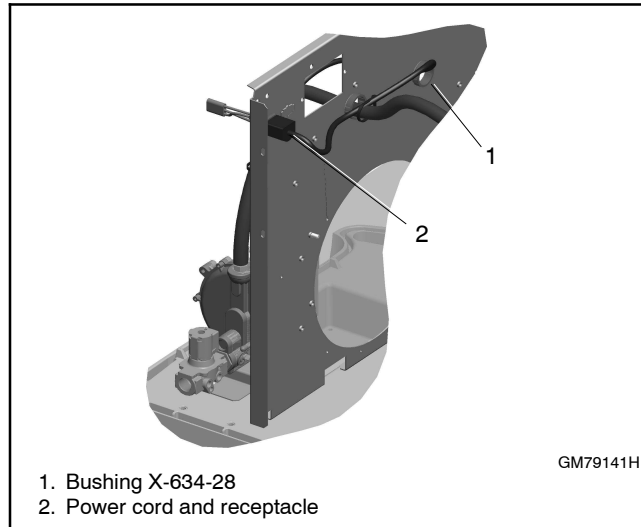
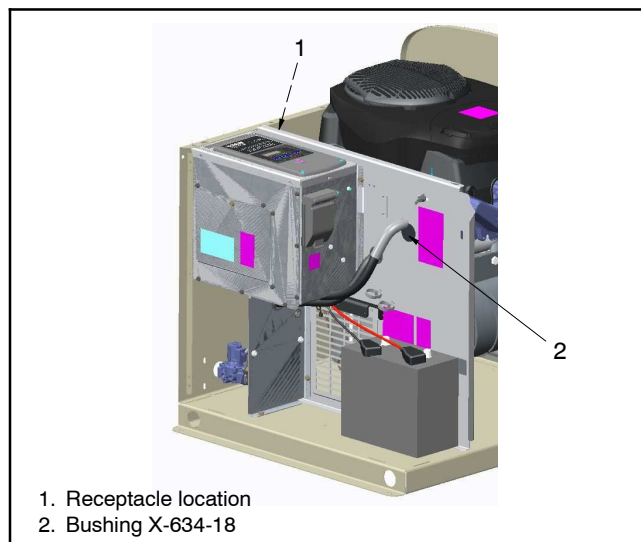
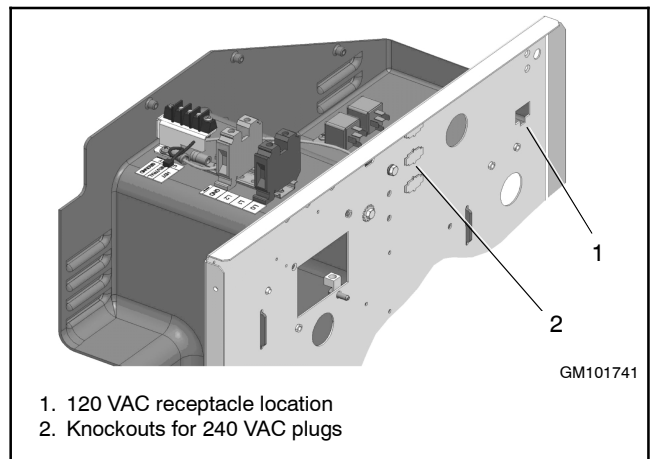

Figure 5 120 VAC Power Cord and Receptacle for 14/20RES(L)/RESA(L) and 20RESC(L)
Figure 6 120 VAC Power Cord and Receptacle for Model 8/10/12RESV(L)
Figure 9 120/240 Volt Power Connection Location
9. **Models 14/20RESA/RESAL and 20RESC/RESCL:** Remove and discard the existing plug from the opening in the bulkhead. Insert bushing X-634-28 and discard bushing X-634-18 which is included in kit GM92406-KP3-QS. See Figure 5.
Models 8/10/12RESV(L): Remove and discard the existing plug from the opening in the bulkhead. Insert bushing X-634-18 and discard bushing X-634-28 which is included in kit GM92406-KP3-QS. See Figure 6.
10. Route the power cord through the opening in the bulkhead. See Figure 5 and Figure 6. Avoid contact with any sharp edges.
11. Plug the heater's power cord into the 120 VAC receptacle. See Figure 5 and Figure 6. If this kit is used with a carburetor heater kit, use the 3-way extension cord included in that kit to plug multiple AC accessories into the receptacle. Models 14/20RCA(L): See Figure 9 for 120/240 VAC power connections.
Models 14/20RCA(L): See Figure 9 for 120/240 VAC power connections.